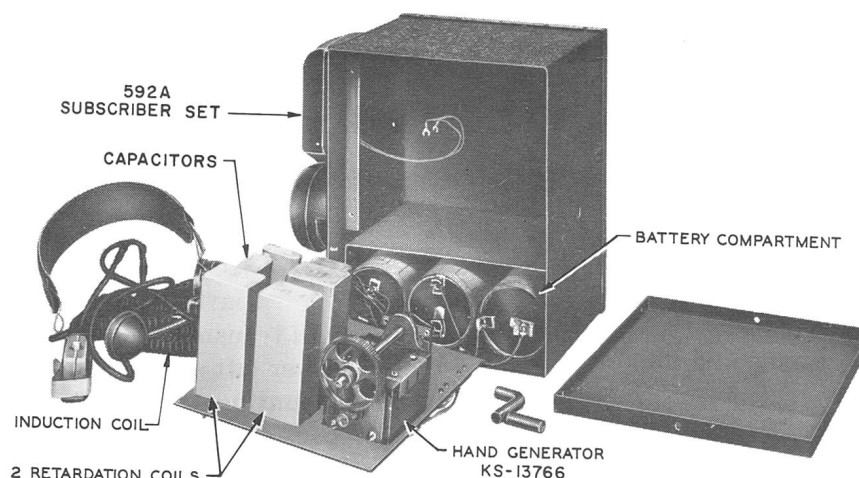

Fig. 2 — F-50682 Telephone Set, Open View
2.02 Space is provided for three KS-6542-type batteries which are required for operation but are not furnished with this set (see Figs. 2 and 3). A 592A subscriber set is mounted on the outside of the box on the left side, and the F-50721 head telephone set is connected to the set by means of a 15-foot spring cord which is furnished as part of the headset.